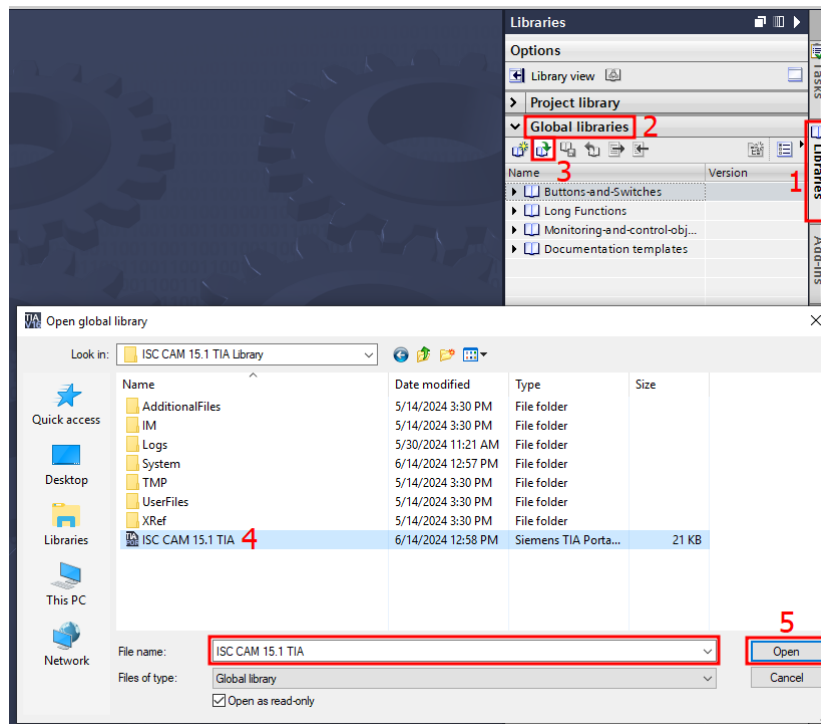

Figure 14: Adding Global Library to TIA Portal Project
29. Choose Libraries from the right-hand column, Figure 14.
30. Choose “Global libraries”, Figure 14.
31. Click on “Open global library”  button, Figure 14.
32. A file explorer window will open, navigate to the downloaded library file “TIA_LIBRARY_15.1_ISC_CAM_v2” and click “Open,” Figure 14.